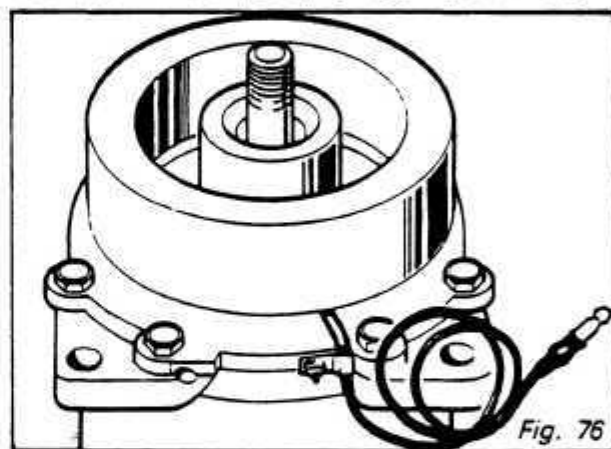

Fig. 76
- Loosen coil lead wire from clip on top of compressor front housing. (Earlier models do not use this clip.) Fig. 76